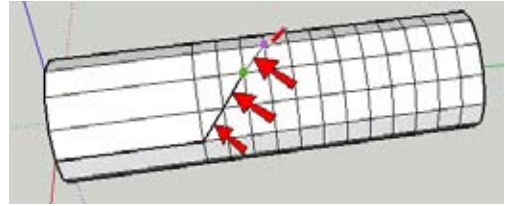

Figure 2-95
6. Now draw the 12 short segments for the spiral. Starting from the end of the long segment you just traced, draw diagonals, one by one, in the small faces (Figure 2-95).